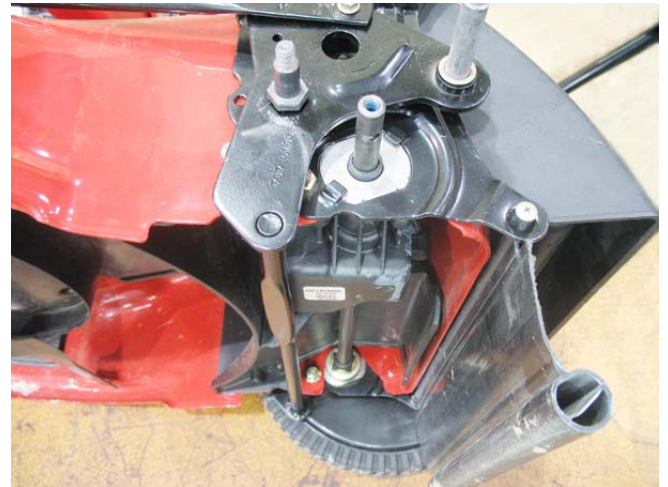

Figure 6.28
10. Transmission removal from the 860 Series is similar to the 830 Series: See Figure 6.28.